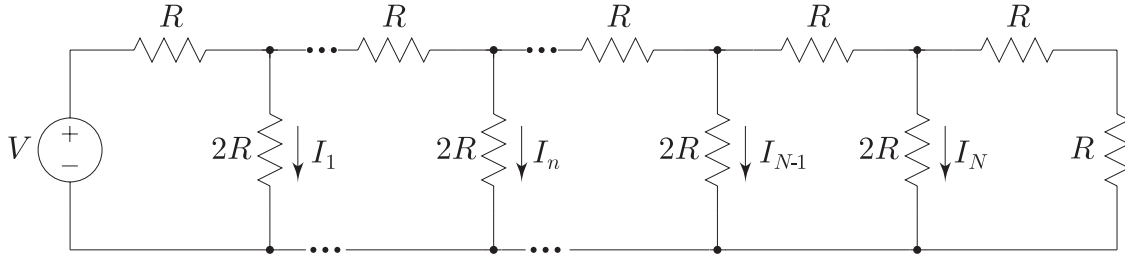

Figure 1.1: An $R-2R$ ladder network.
3. **R-2R Ladder Network.** Consider the circuit shown in Fig. 1.1. It is called an R - $2R$ ladder network, because if you were to turn it sideways it would look like a ladder. This type of circuit is commonly used to build digital-to-analog (D/A) converters to interface computers to the real world, as you will be considering in the postlab section. As a function of the applied voltage, V , and the unit resistance, R , what are the currents, I_1 through I_N , that flow through each of the $2R$ branches?
4. **Accurate 2:1 Resistor Ratios.** In order to obtain accurate current division at each branch in the $R-2R$ ladder network shown in Fig. 1.1, we need to have accurate 2:1 ratios between the various branches in the network. When designing integrated circuits, we obtain the most accurate ratios (for rational numbers) when we use an integral number of well-matched unit-sized devices. In this case, we would like to construct two effective resistances in a 2:1 ratio from three identical resistors, each with a resistance R . Come up with two different methods to accomplish this goal. In building an $R-2R$ ladder network, which method uses fewer unit resistors?